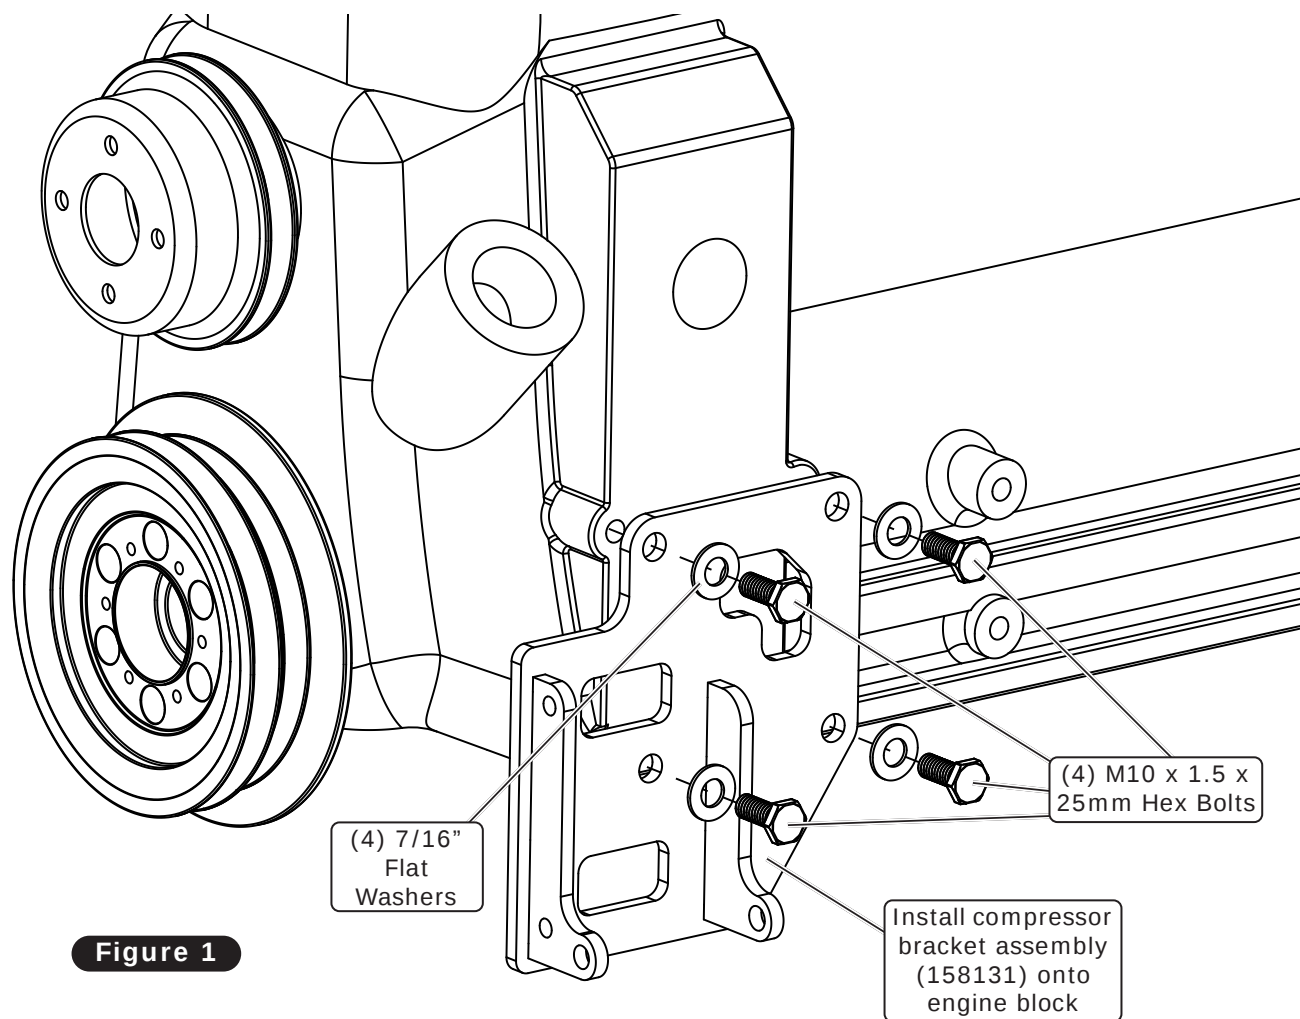

Figure 1
1. Install the compressor bracket assembly onto the engine block using (4) M10 x 1.5 x 25mm hex bolts and (4) 7/16" flat washers as shown in Figure 1, below. Tighten bolts.